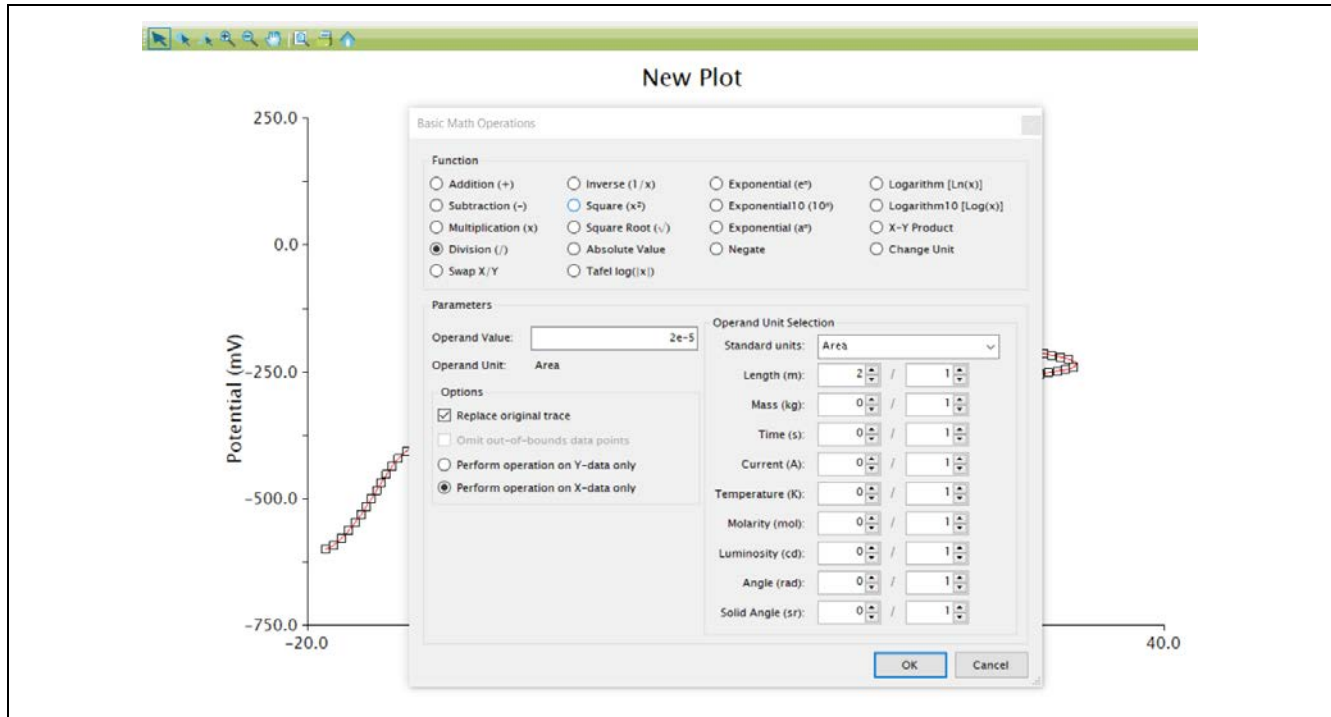

Figure 2-4. Use of Basic Math Operations to Convert Current to Current Density
1. Right click the LSV data on the plot and choose *Apply Transform* → *Basic Math Operations...* (see: Figure 2-4).